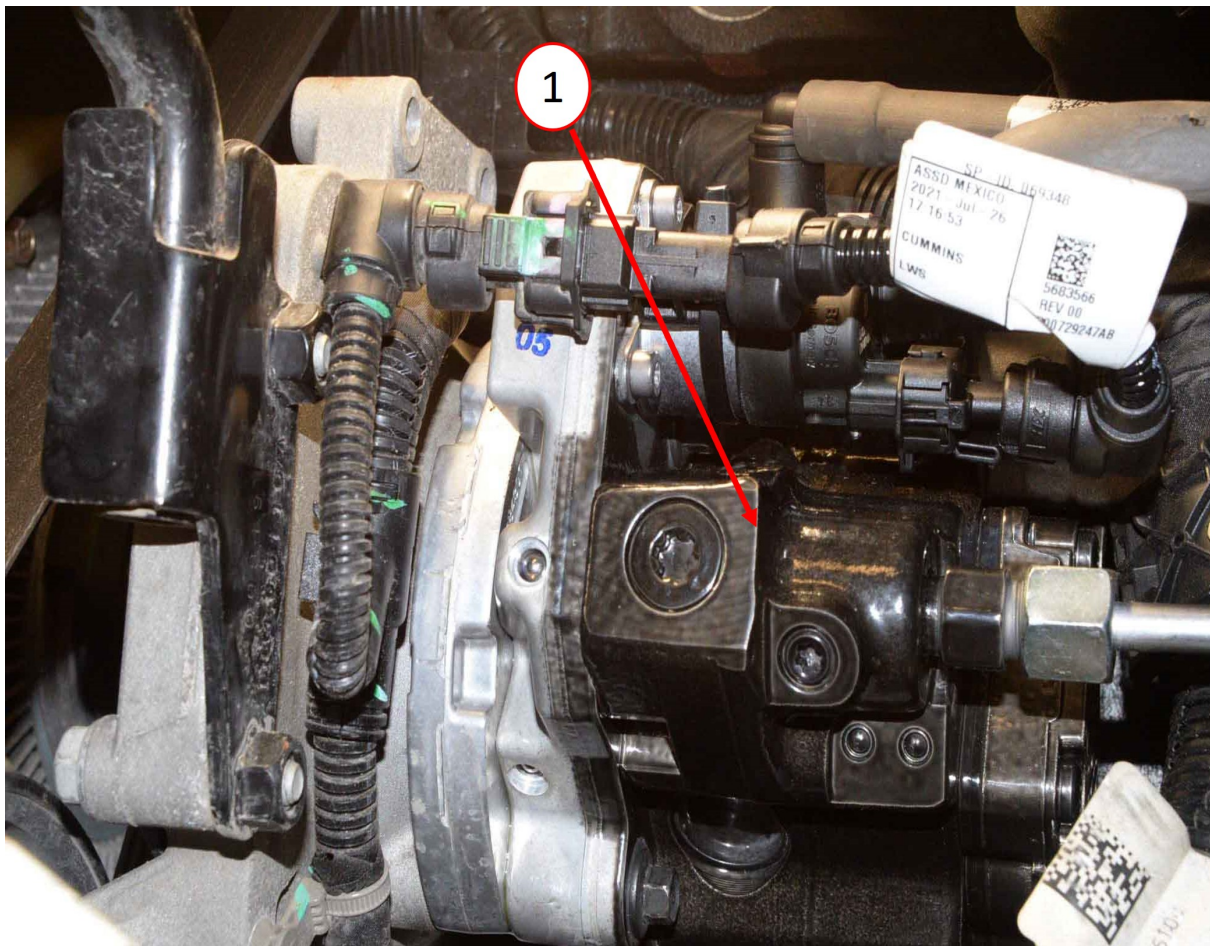

Fig. 1
NOTE: The only calibration available will be for the updated CP3.3 design High-Pressure Fuel Injection Pump (Fig. 1) . Please ensure that recall Y78 has been completed first before proceeding with this update.
1. Inspect the High-Pressure Fuel Injection Pump to see which pump is currently installed on the vehicle (Fig. 1) . Also review the vehicle VIP report to see if campaign Y78 has been performed.